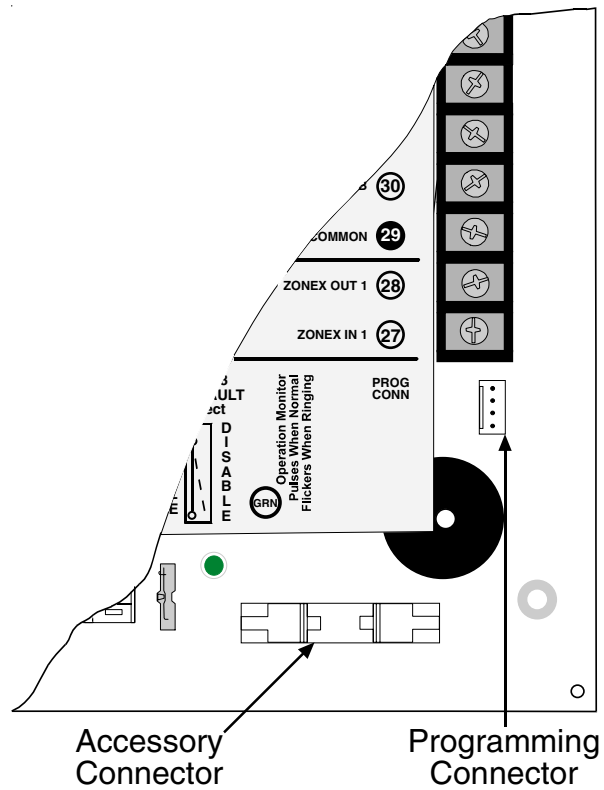

Figure 20: Programmer and Accessory Connections
2. Connect the D5200 Data/Power cord into the programmer connector (refer to *Figure 20* on page 58).